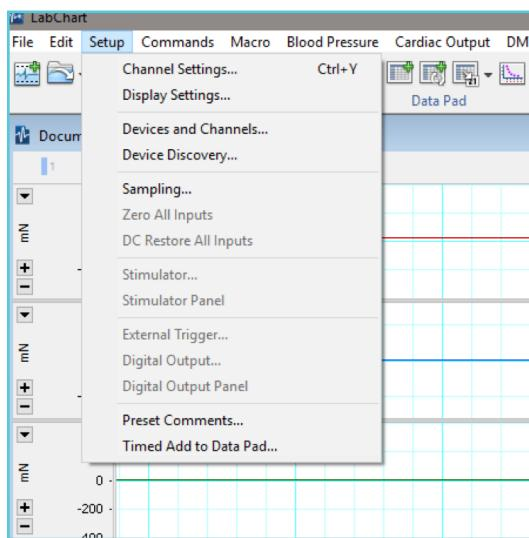

Figure 85: Select the Devices and Channels in the Setup menu
11. If two 750TOBS are connected to the computer go into the Setup menu and select the Devices and Channels menu (figure 85).